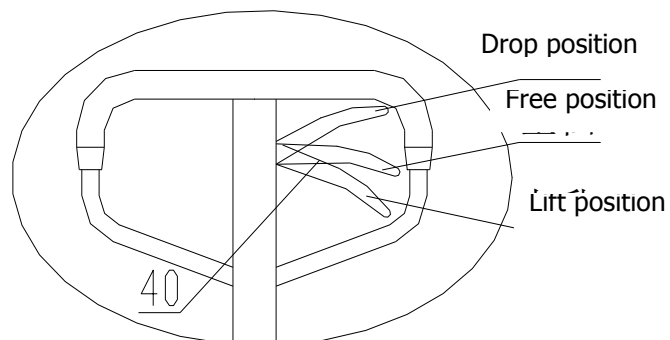

Fig5
4.1 After the truck is assembled, try to rock the hand grip and operate different positions of control handle knob 40 to examine the lifting, free position and dropping and check that whether the different positions are normal or not. See fig 5.